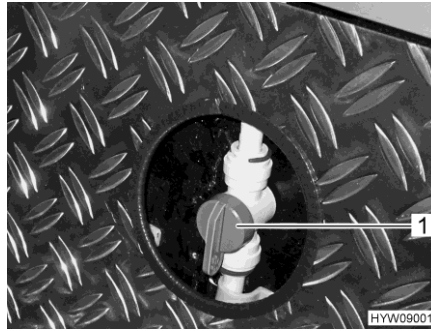

Fig. 188 Inlet valves (rear garage heating)
- Adjust the handle (Fig. 188,1) on the inlet valve for the rear garage heating so that it is parallel to the heating pipe. The rear garage heating is now working at maximum power.
- Set the handle (Fig. 188,1) on the inlet valve for the rear garage heating to the desired position. This enables the hot water distribution to the rear garage to be continuously adjusted.
- Set the handle (Fig. 188,1) on the inlet valve for the rear garage heating so that it is horizontal to the heating pipe. The rear garage heating is now switched off.